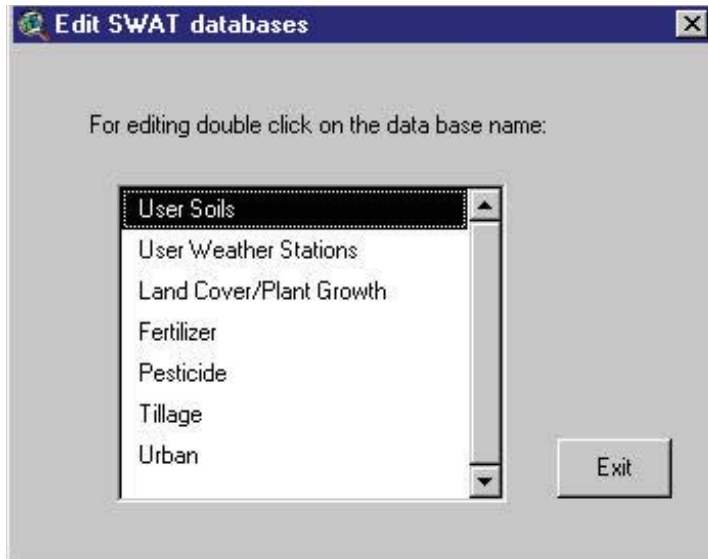

Figure 14.2
1. Double-click **User Soils** on the list of databases (Figure 14.2).